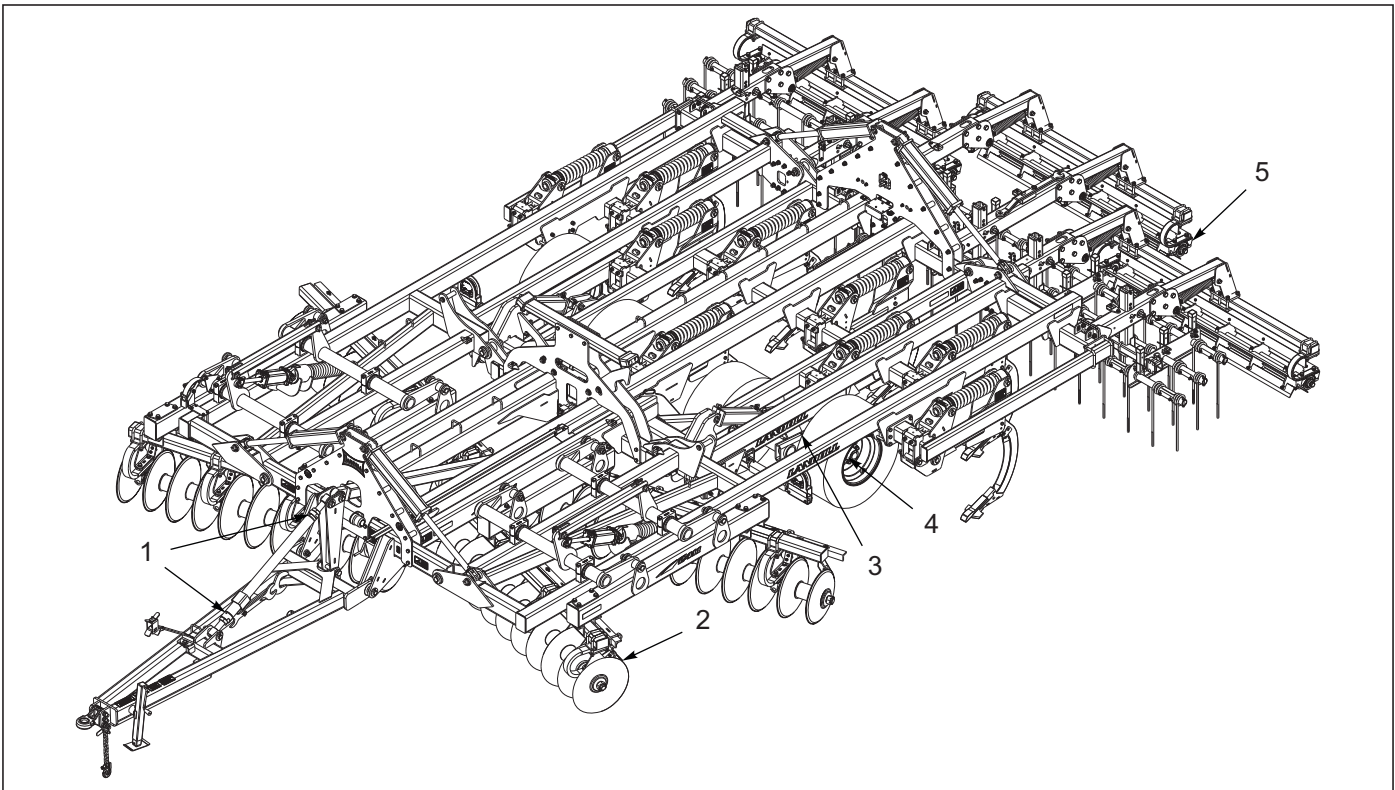

Figure 5-3: Lubrication Schedule
1. **Table 5-1** specifies the lubrication points and intervals on the 2411. Proper maintenance of your machine will, under normal operating conditions, help to keep it operating at or near its peak performance for an extended period of time. Proper maintenance is also a condition of keeping your warranty in good status. **See Figure 5-3.**